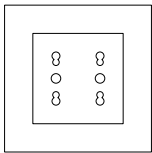

Figure 1
- 1 - To open Stark QP Bipasso, use a flat screwdriver and lever on the 2 tabs at the bottom (Figure 1).